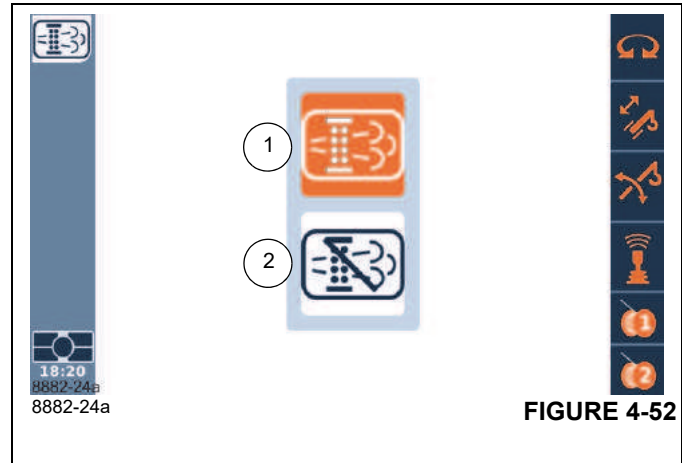

FIGURE 4-52
The Exhaust System Cleaning Menu allows the operator to either initiate an exhaust system cleaning, select Item (1), (Figure 4-52) or inhibit an exhaust system cleaning, select Item (2), (Figure 4-52).